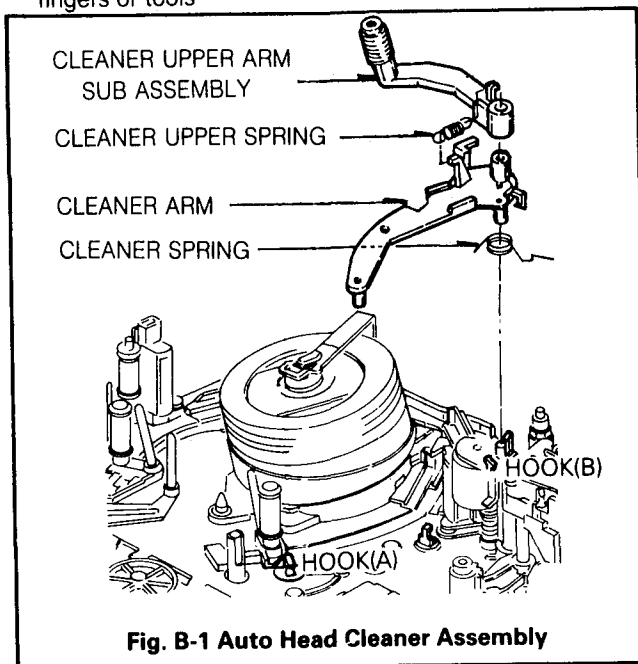

Fig. B-1 Auto Head Cleaner Assembly
1. Auto Head Cleaner Assembly (Fig. B-1) (Optional Item)